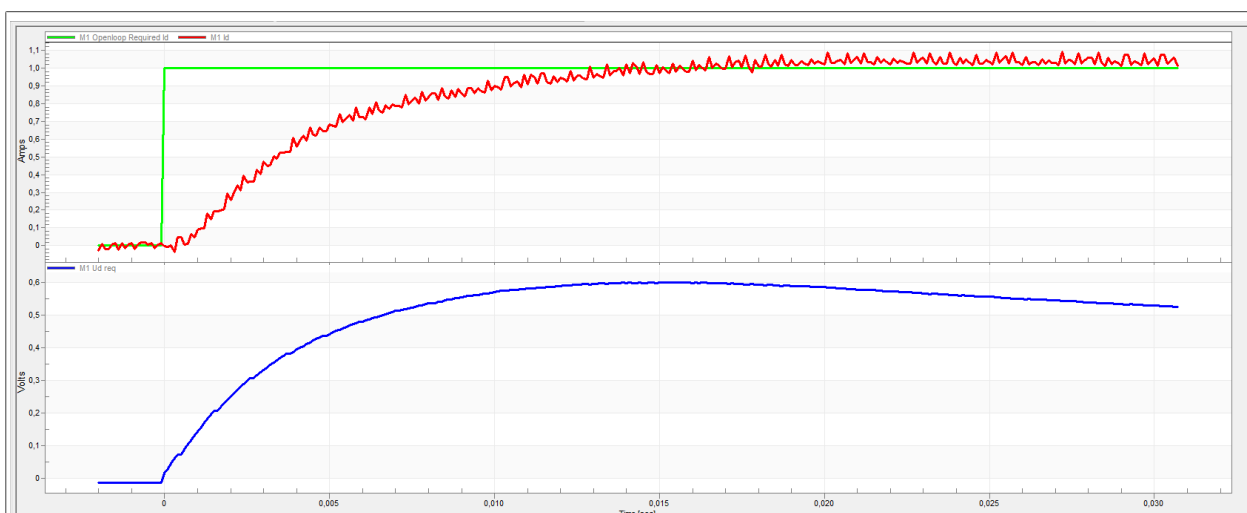

Figure 34. Slow step response of the Id current controller
- The loop bandwidth is low (100 Hz) and the settling time of the Id current is long (Figure 34).